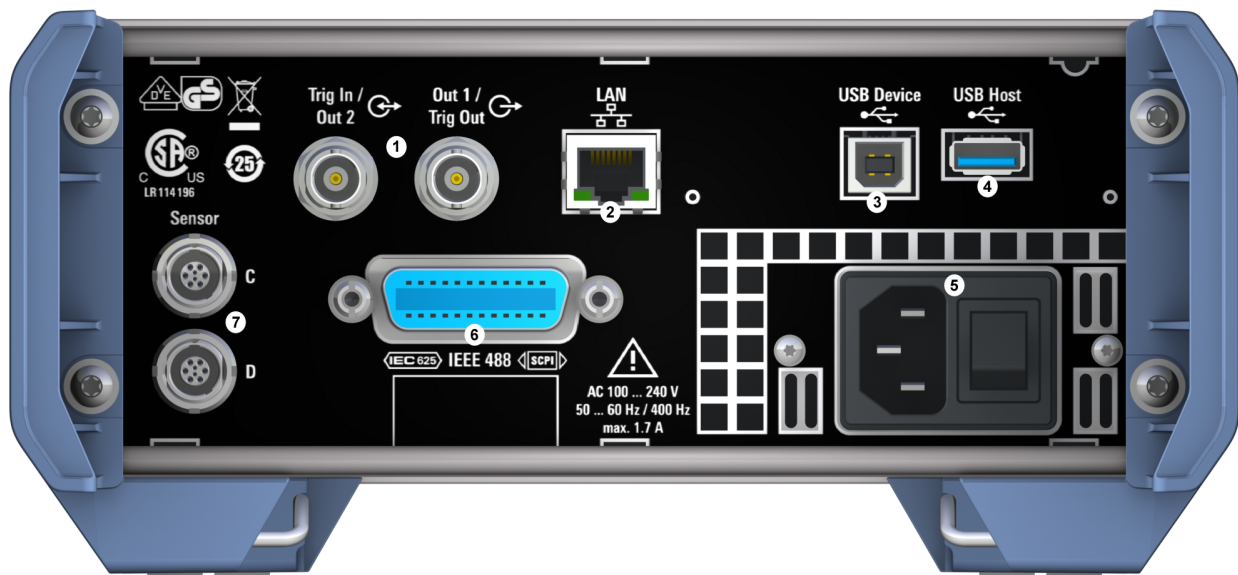

Figure 5-2: Rear panel of the R&S NRX
See (1) in Figure 5-2.
See (2) in Figure 5-2.
See (3) in Figure 5-2.
See (4) in Figure 5-2.
See (5) in Figure 5-2.
See (6) in Figure 5-2.
See (7) Figure 5-2.